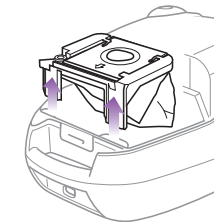

Fig. 14
- 5 Lift the dust bag holder straight out. (Fig. 14)